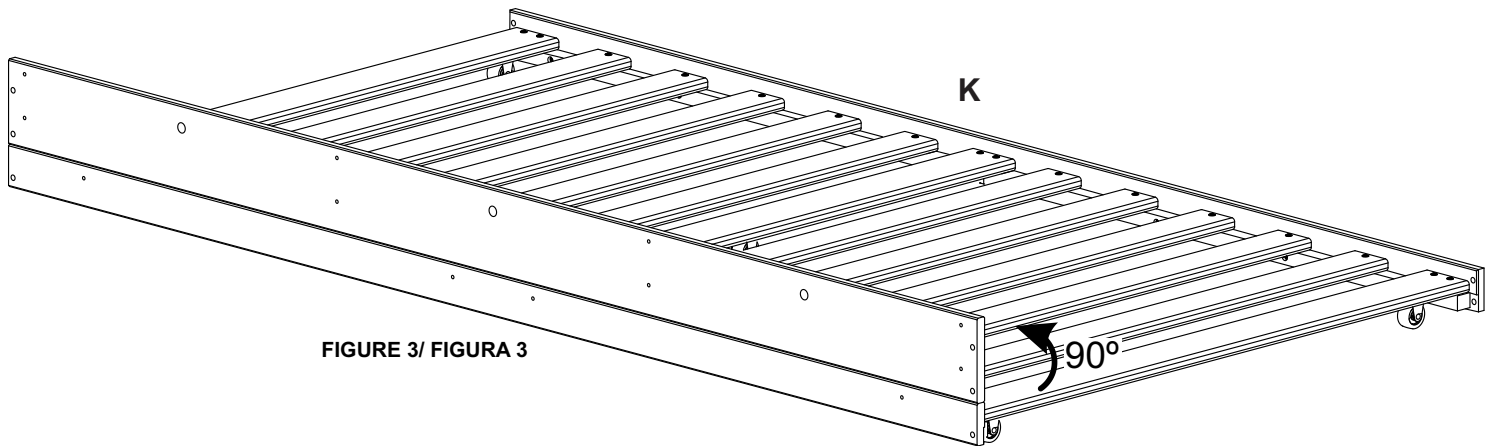

FIGURE 3/ FIGURA 3
3.1 - UNFOLD THE EXTENSIBLE FRONT DRAWER BASE, AS SHOWN ON FIGURE 3.
3.1 - DÉPLOYEZ LA BASE EXTENSIBLE DU TIROIR AVANT, COMME INDIQUÉ À LA FIGURE 3.